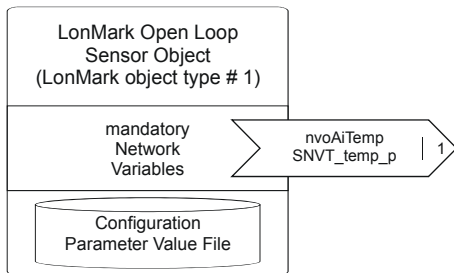

Fig. 6. Open Loop Actuator Object
- one open loop sensor object (#3) (see Fig. 6)